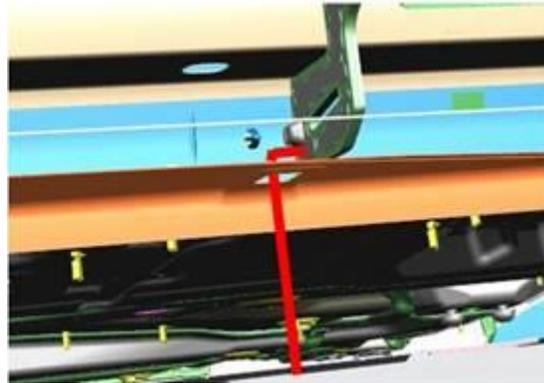

Figure 10. Correct positioning of the heated rod.
10. Figure 10 shows a drawing of the operation performed and the correct positioning.